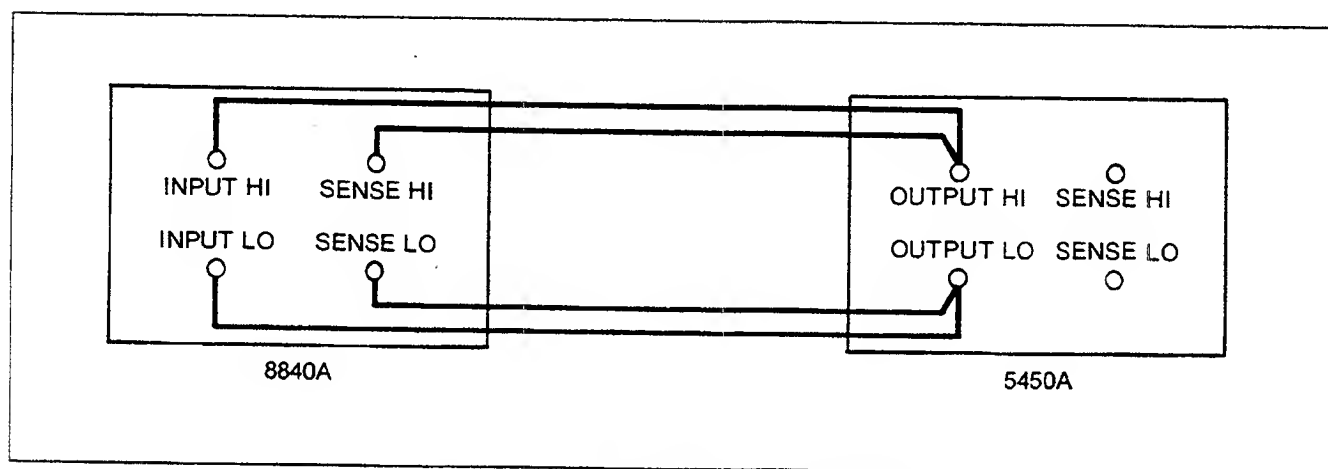

Figure 6-4. Optimizing Use of the 5450A
2. Connect the UUT to the 5450A as shown in Figure 6-4.
13. Using the same configuration shown in Figure 6-4, verify that the UUT measures the same value (within 1 digit) in 2-wire ohms (using the offset feature to correct for 5450A floor error) as in 4-wire ohms. If the readings differ by more than 1 digit, reenale the calibration mode and repeat steps 2 through 8.